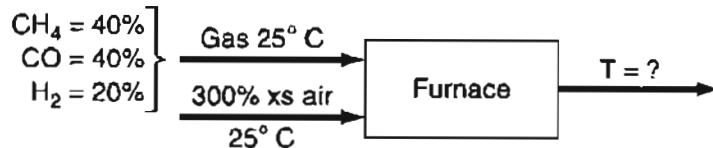

Figure P26.15
- **26.15** A gas is burned with 300% excess air with the gas and air entering the combustion chamber at 25°C. What is the theoretical adiabatic flame temperature achieved in °C? See Figure P26.15.